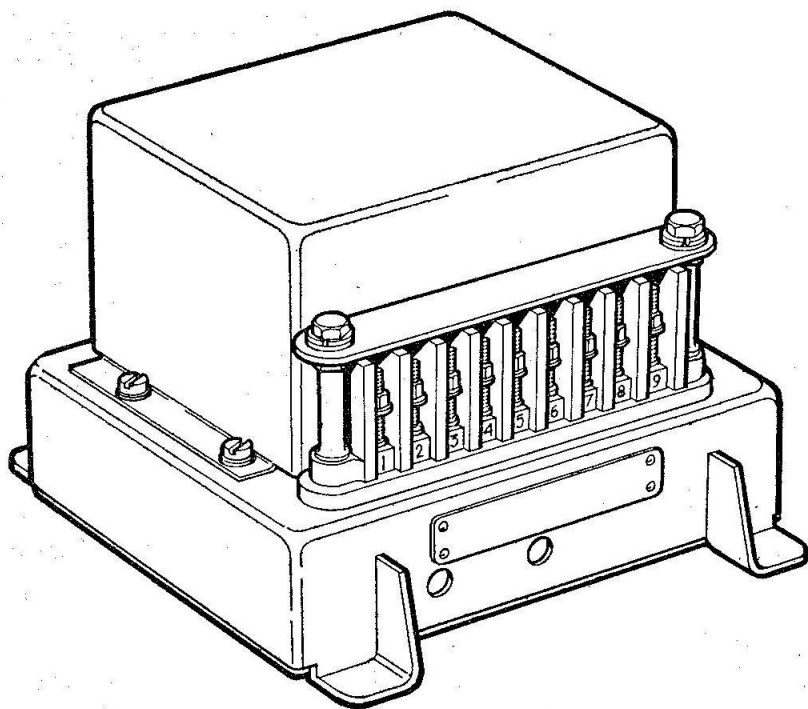

Fig. 1. General view of Type U3611
2. The unit (fig. 1) consists of a discriminating circuit incorporating a transistor, a zener diode and two silicon diodes; a switching circuit incorporating two transistors, a zener diode and three silicon diodes, and a latched relay, Type F8502. The discriminating circuit selects the faulty generator which is disconnected from line by the switching circuit and latched relay. External facilities are provided for both tripping and resetting the unit.